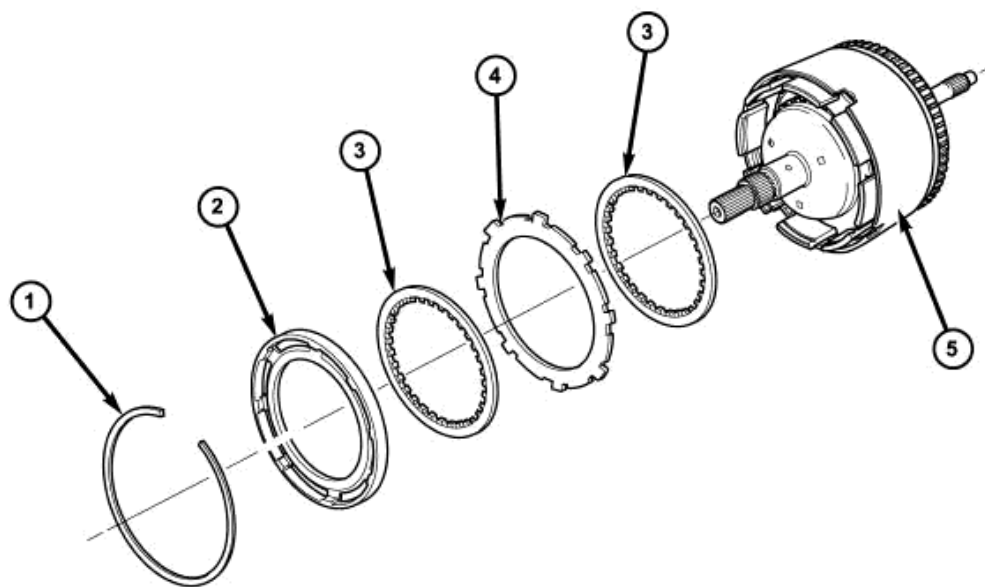

Fig. 254: Reverse Clutch Assembly
37. Refer to **Fig. 254** as necessary when performing the following steps .